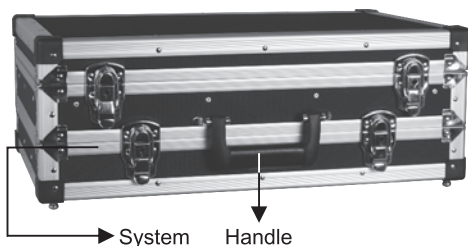

Fig. 32: MTG-100C-28
5. System configurations, Fig. 32, 33: